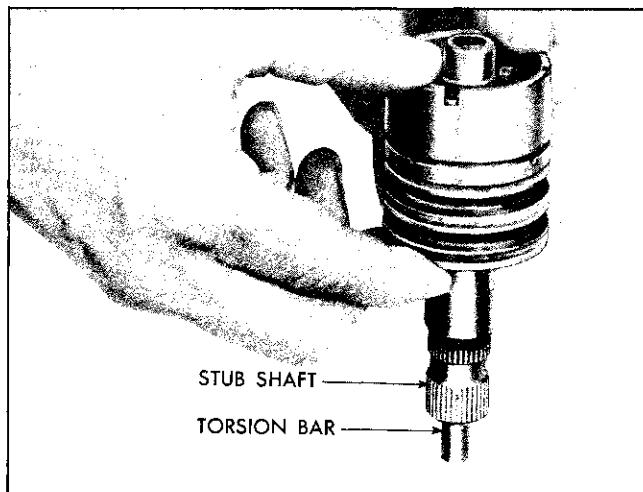

Fig. 9-54 Tapping to Loosen Valve Spool
2. Tap end of stub shaft assembly gently against workbench to remove valve spool (Fig. 9-54).